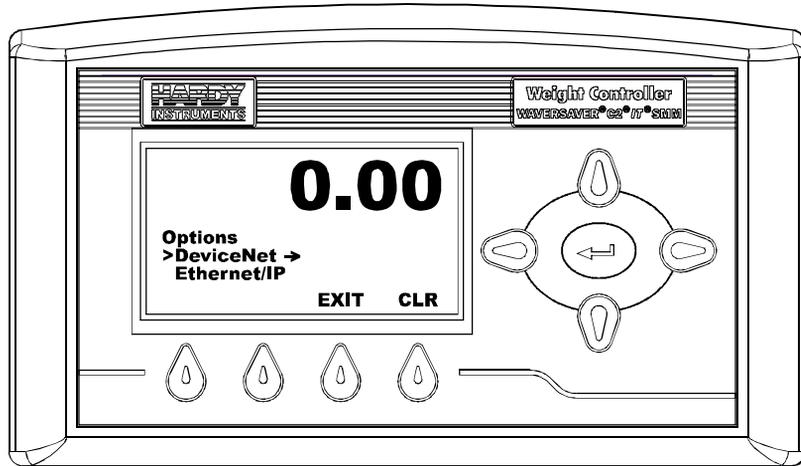

FIG. 117 OPTIONS MENU/SELECTING DEVICENET
Step 3. Press the Enter button. The Options Menu appears. (See Fig. 117)